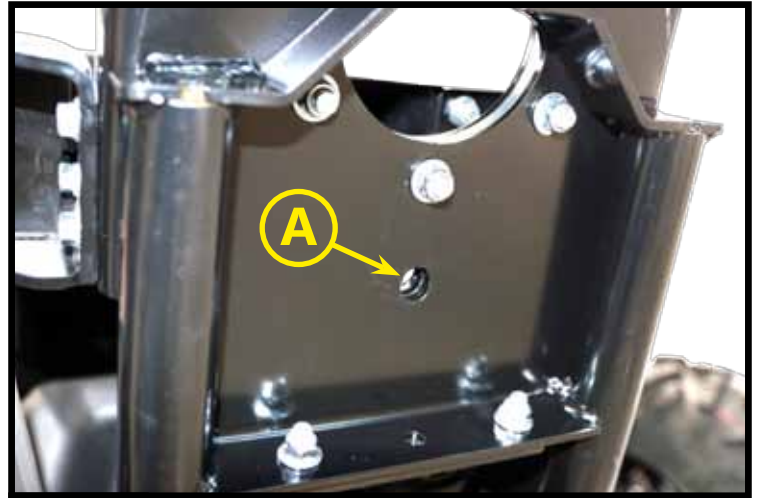

Figure 2
1. Once the plow actuator has been removed, align pin hole (A) in pivot plate to your desired blade angle as shown in **Figure 2** by manually rotating the blade.